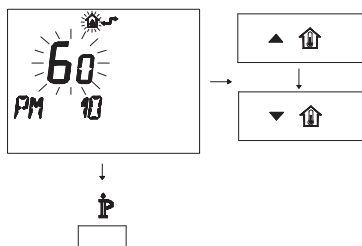

Fig. 7.39
- To modify the programmed SET, act on buttons **UP** or **DOWN** and wait for the number programmed to flash (Fig. 7.39).